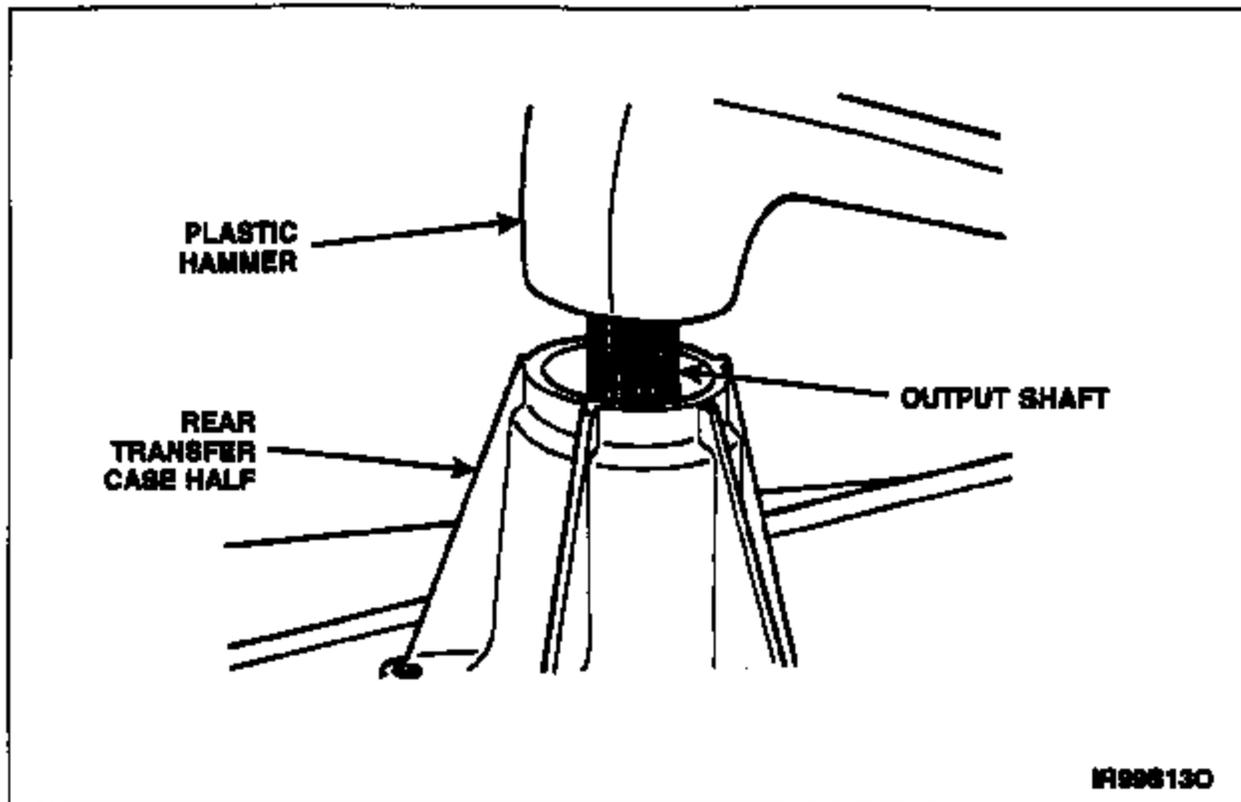

FIGURE 15
58. Using a plastic hammer, lightly tap the end of the output shaft to remove the output shaft assembly from the rear transfer case half. See Figure 15.